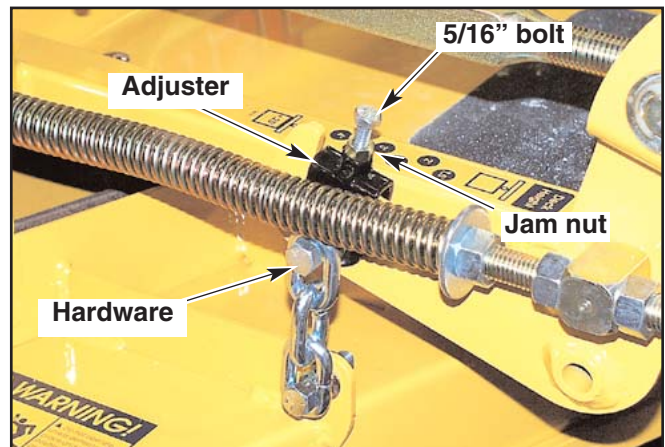

Figure 9-38
14. Loosen the 5/16" jam nut on the adjuster lift chain (Fig. 9-38), and back the adjuster bolt out to allow the adjuster to move up and down freely.
17. Tighten the adjuster bolt jam nut to prevent the adjuster bolt from moving. Fig. 9-38
20. Make sure that there is still slack in the chain. If not, loosen the two nuts on the block holding the threaded rod until there is slack in the deck lift chain. Fig. 9-38